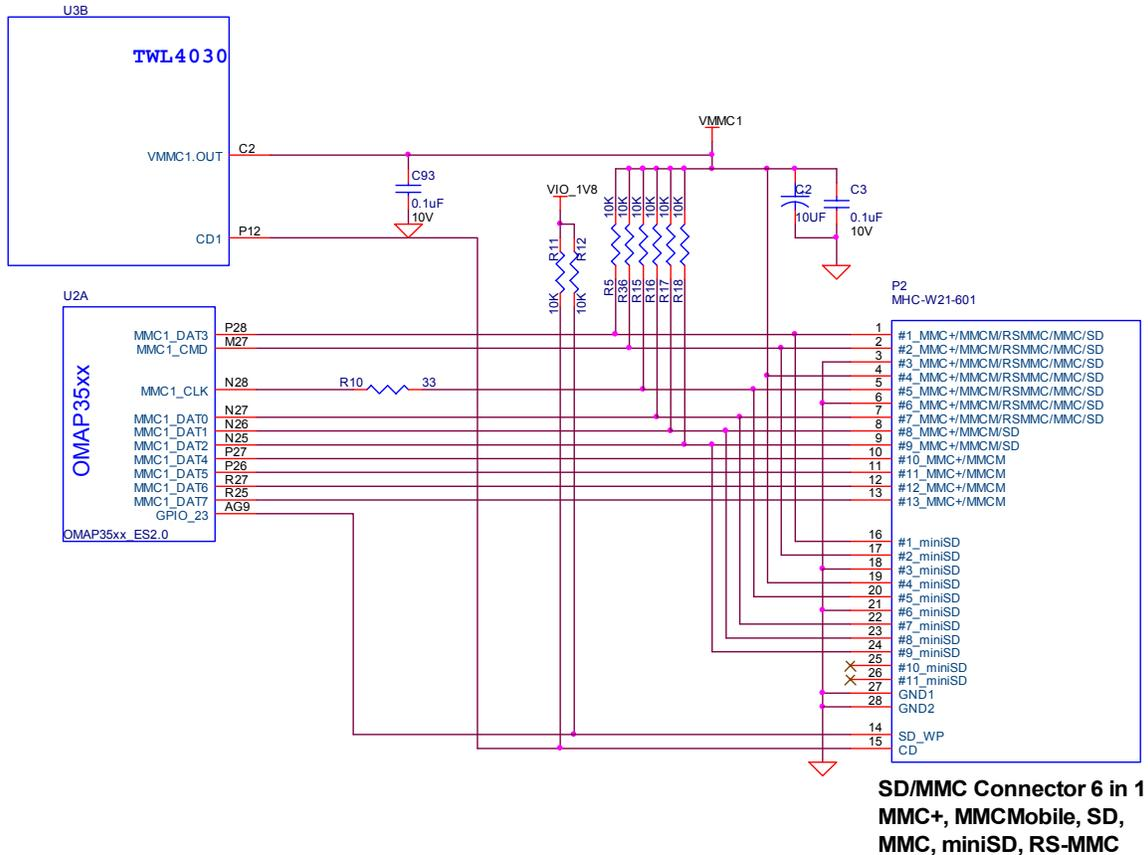

Figure 38. SD/MMC Interface
**Figure 38** is the SD/MMC interface design on the BeagleBoard.